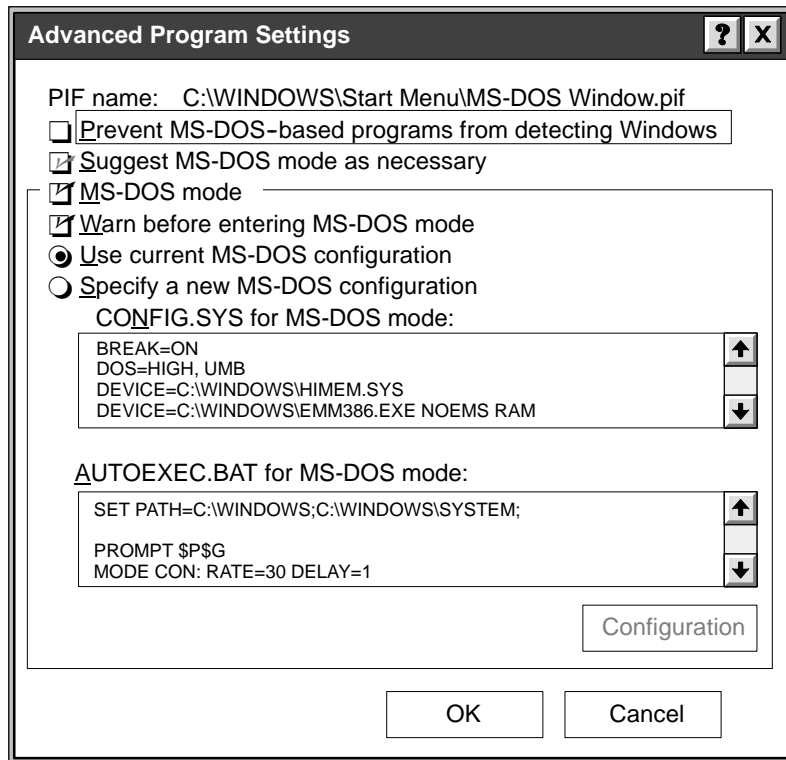

Figure D-9 Advanced Program Settings Dialog Box
2. Select the **Program** tab, and then select the **Advanced** button to access the Advanced Program Settings dialog box (Figure D-9).
The **config.sys** file must support all programs and devices to be used in this DOS environment. A sample **config.sys** file suitable for installing APT is listed below. See Figure D-9.
The **autoexec.bat** file that you need at this point is shown below. The `prompt` command sets the prompt string for all DOS sessions. The `mode` command speeds up the key repeat rate, which is a useful setting for APT. The virtual DOS environment example included **doskey**, which is optional and is not required to run APT. Due to the addition of **smartdrv.exe** and **mouse.exe**, some computer systems may not have room to include **doskey**, so it is omitted from the example. A sample **autoexec.bat** file suitable for installing APT is listed below. See Figure D-9.